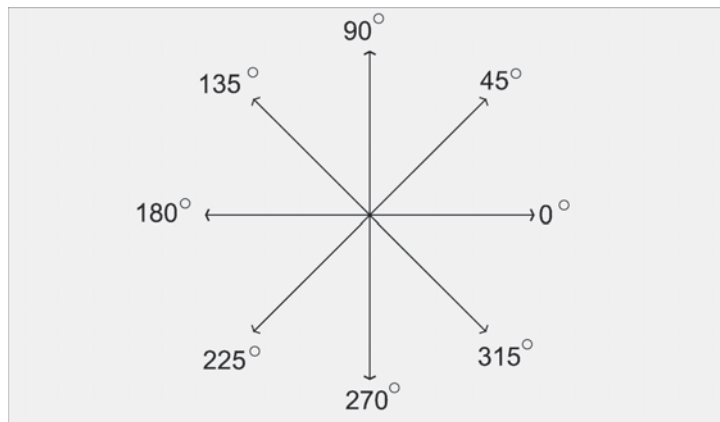

Figure 2.5
Angles are given based on the system shown in Figure 2.5, in which  $0^\circ$  is a horizontal direction from left to right,  $90^\circ$  is straight up,  $180^\circ$  is horizontal from right to left, and so on. You can specify degrees, minutes, and seconds of arc if you want to be that exact. I'll discuss angle formats in more detail in Chapter 3.
**Direction** By default, AutoCAD assumes that 0° is a horizontal direction from left to right. For example, 90° is directly vertical, and 180° is a horizontal direction from right to left. Angle values increase from 0° in a counterclockwise fashion. Figure 2.5 (earlier in this chapter) shows the cardinal directions and their degree values in a default AutoCAD setup. If your drawing requires a different direction for 0°, you can use the Direction option to choose an angle. When you click the Direction button, the Direction Control dialog box opens. Click one of four radio buttons to select the 0° direction from the four cardinal directions. If your desired 0° direction does not conform to the cardinal directions, you can specify an angle numerically or graphically by selecting the Other option.